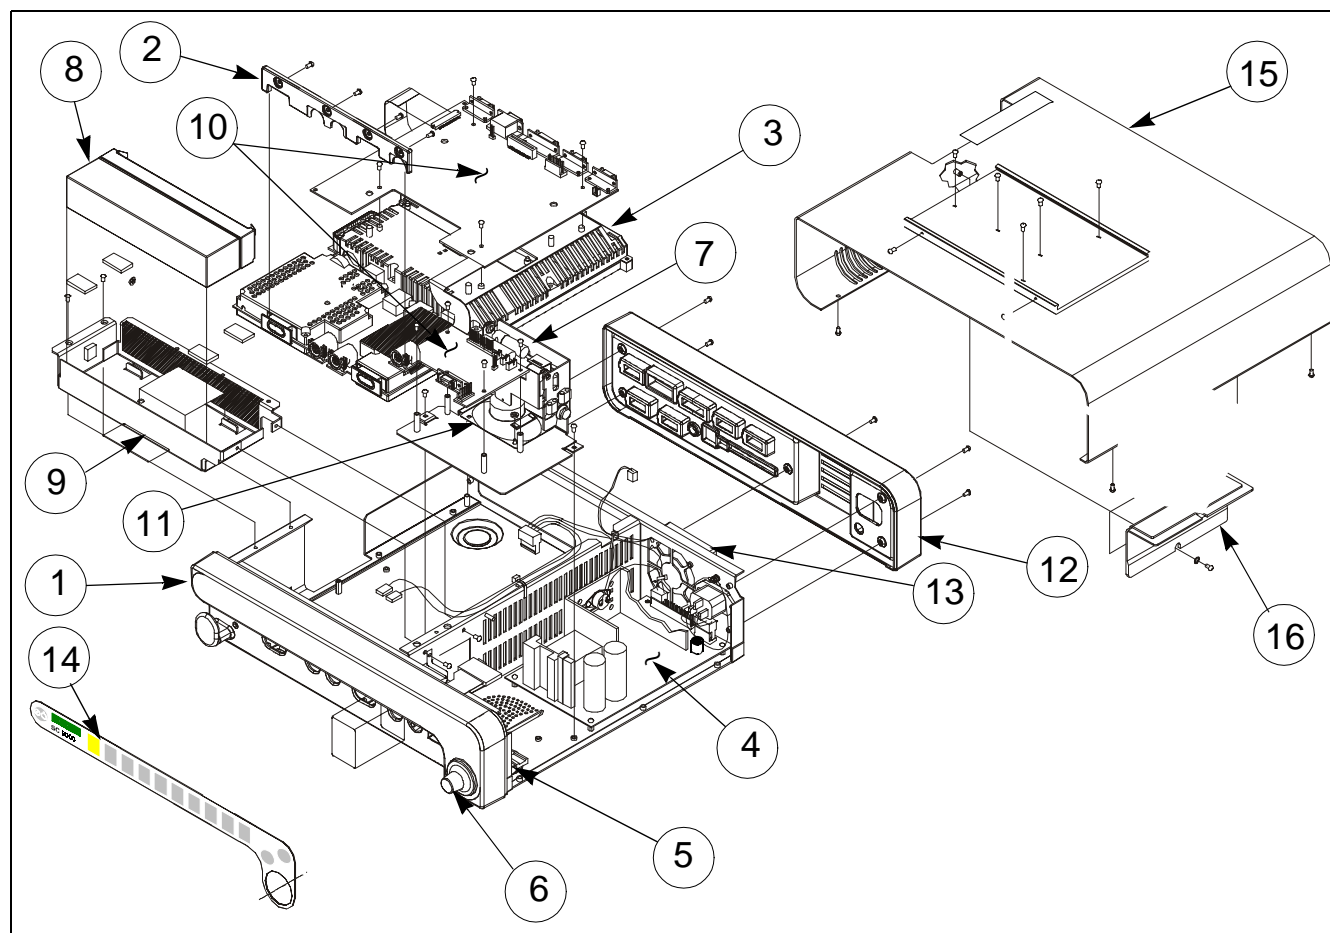
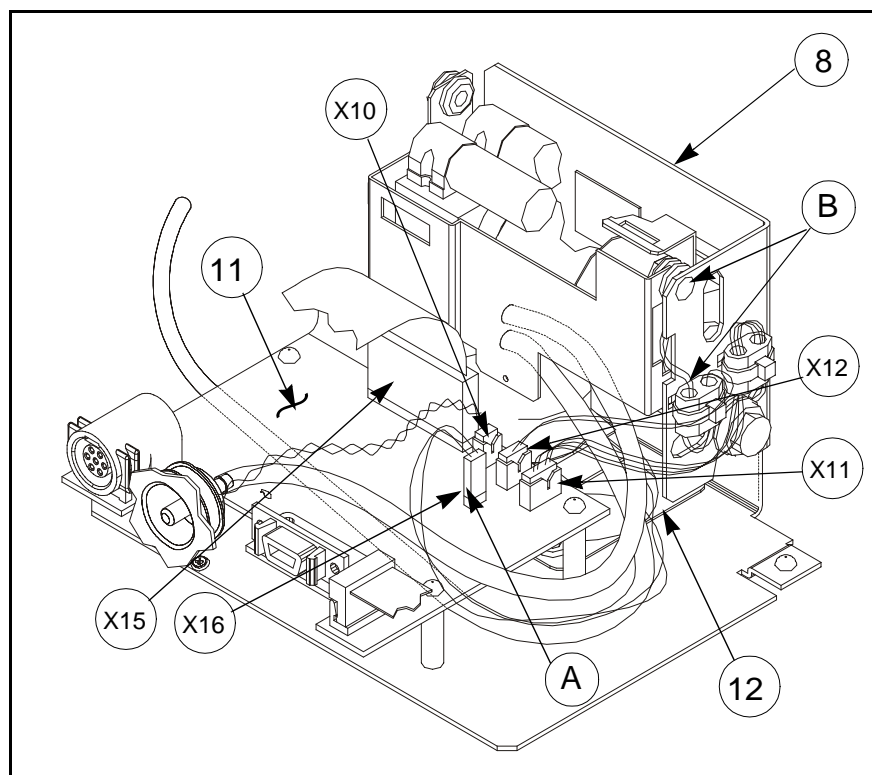

Figure 3-1 Basic SC 8000 Patient Monitor (shown w/o Adv. Comm. and MIB 1&2 Options - see Figure 3-6)
Figure 3-2 NBP Pump Subassembly (⑧) and Speaker (⑫) with front panel interface board of Connector I/O PCB Subassembly (⑪)
Refer to Figure 3-1 and Figure 3-6. The following items are available for replacement in the field. Refer to Appendix A for part numbers.
- ⑧ Battery
- ⑨ Battery Tray
- ⑩ Connector I/O PCB Subassembly (2 boards connected by flex cable)
- ⑪ Speaker Subassembly (also Figure 3-2 on page 34)
- ⑫ Rear Panel (w/o installed Adv. Comm and MIB 1&2 Options)
- ⑬ Fan
- ⑭ Language Label
- ⑮ Top Cover
- ⑯ Blank Cover (if Adv. Comm and MIB 1&2 Options not installed)
Fan (14 in Figure 3-1) is located behind back panel beside AC power connector, and can be replaced without removing outer case of monitor.
Battery (⑨ in Figure 3-1 on page 30 and in Figure 3-6 on page 40) is located in tray (⑩ in Figure 3-1) behind front panel on left side above Main PCB Subassembly.
Power supply (④ in Figure 3-1 on page 30) is located in back right-hand corner of chassis, and is secured to chassis by four screws through corners of power supply PC board into standoffs on bottom of chassis and bracket on bulkhead. Use following procedure to replace Power Supply.
The Connector I/O PCB Subassembly (⑪) in Figure 3-1 on page 30 is comprised of two sections permanently connected to each other by flex cable. The rear panel interface section, mounted on standoffs on the Main Processor PCB subassembly heat sink, is the larger of the two PC boards and contains connectors accessible from the back panel. The front panel interface section (also see ⑪ in Figure 3-2 on page 34), is the smaller of the two and contains connectors accessible from the front panel as well as circuitry for the user interface. Each section is individually secured in the monitor chassis, and may be temporarily freed up from the chassis in order to facilitate access to other components.
- 3) Note dress of cables, and unplug following connectors from front panel interface board of Connector I/O PCB subassembly (see Figure 3-2).
Speaker subassembly is located under NBP pump subassembly on NBP Subassembly bracket (see ⑫ in Figure 3-1 on page 30 and also in Figure 3-2 on page 34), and is secured to bracket by lip on bracket and two threaded studs protruding from bracket under pump subassembly. Use following procedure to replace speaker subassembly.
- 3) Using long-nose pliers, unplug speaker cable (A in Figure 3-2) from X16 on front panel interface board of Connector I/O PCB subassembly.
The NBP Pump Subassembly is housed on a mounting bracket in front of the power supply. See ⑧ in Figure 3-1 on page 30 and in Figure 3-2 on page 34.
- 3) Remove and save two Phillips-head screws (B in Figure 3-2 on page 34) that secure NBP Pump Subassembly in mounting bracket.